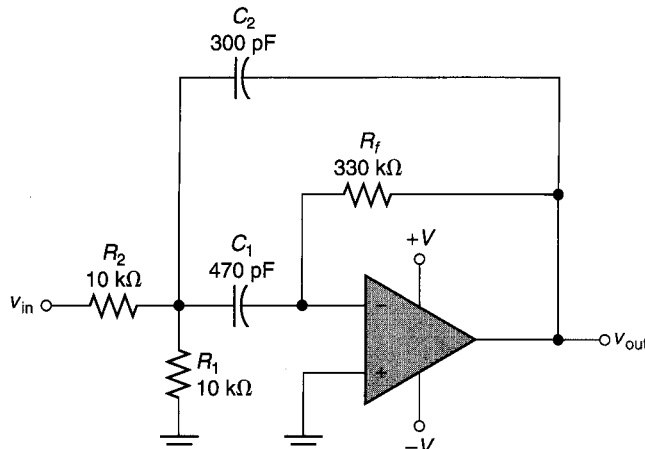

FIGURE 17.53
18. Calculate the values of  $f_{C1}$ ,  $f_{C2}$ , bandwidth, geometric center frequency, and  $Q$  for the band-pass filter in Figure 17.53.
- 22.** Calculate the value of  $A_{CL}$  for the filter in Figure 17.53.